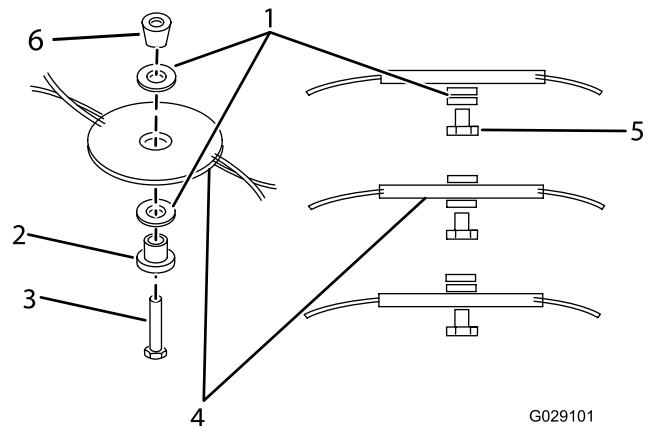

Figure 13
6. Reposition the spacers to the desired height, then reinstall the flexi blade (Figure 13).